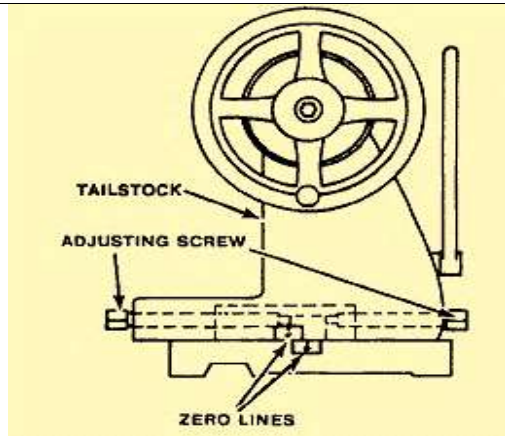

Figure 7-63. Tailstock offset for taper turning.
**Offsetting the Tailstock:** The oldest and probably most used method of taper turning is the offset tailstock method. The tailstock is made in two pieces: the lower piece is fitted to the bed, while the upper part can be adjusted laterally to a given offset by use of adjusting screws and lineup marks. The length of the taper is from headstock center to tailstock center, which allows for longer tapers than can be machined using the compound rest or taper attachment methods. When the lathe centers are aligned and the workpiece is machined between these centers, the diameter will remain constant. (Figure 7-63).